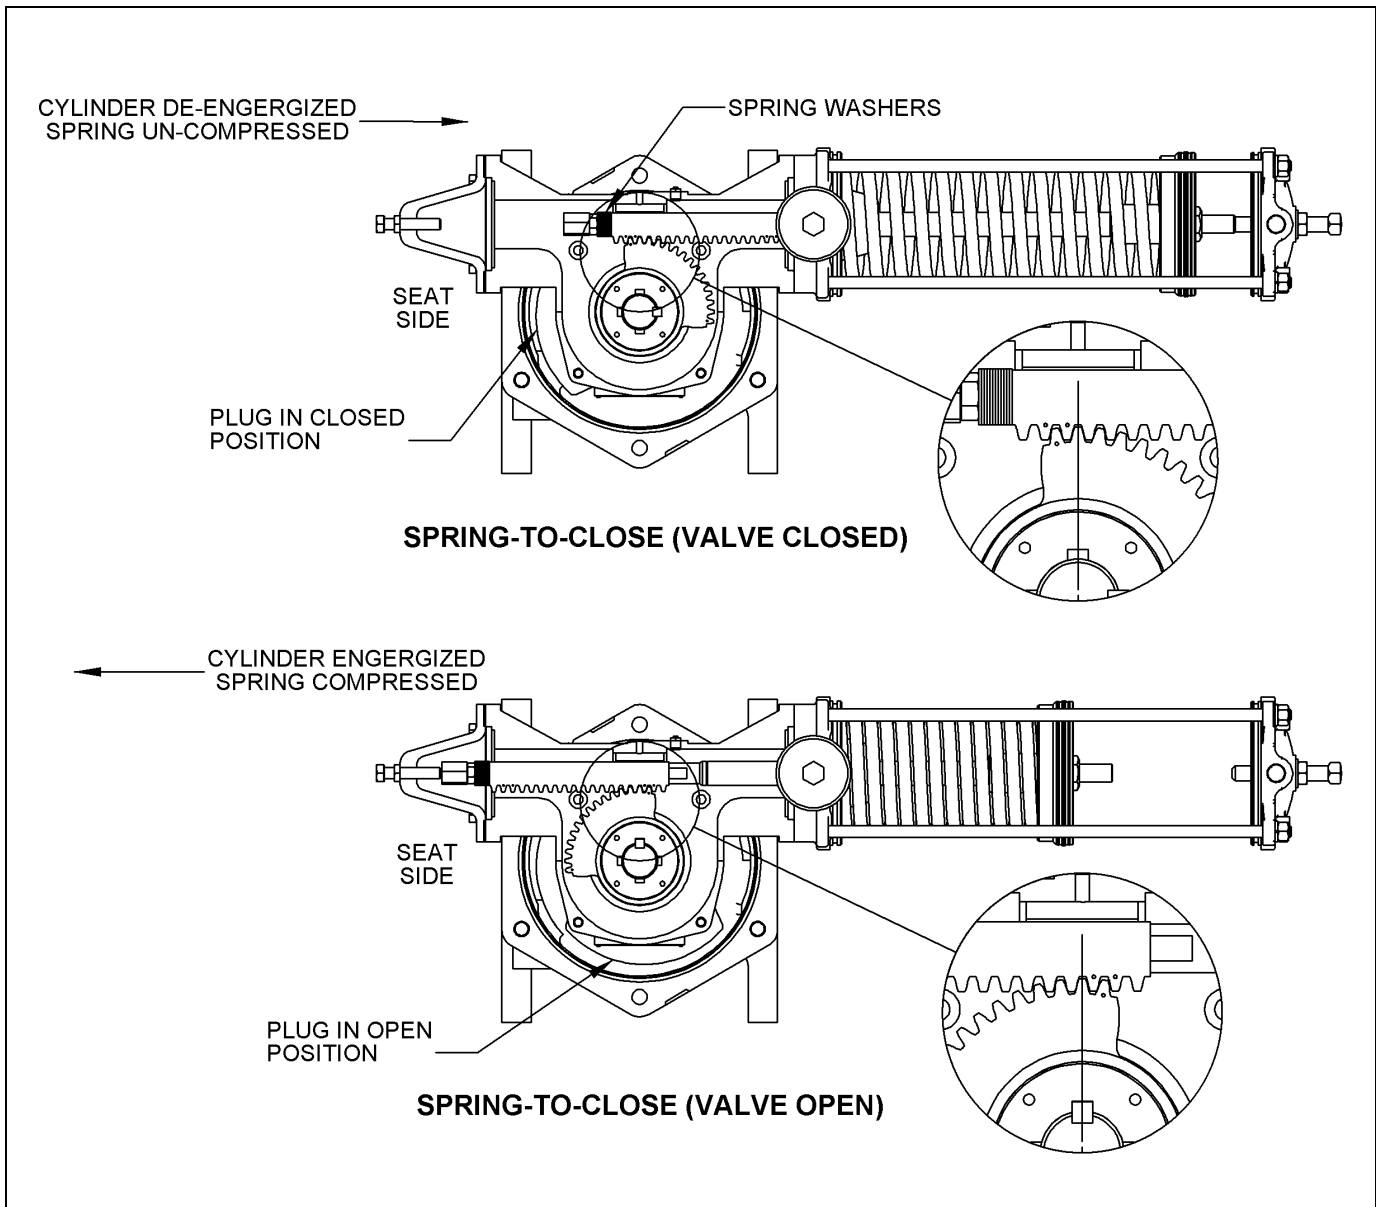

Figure 9 – Spring-To-Close Actuator (6A actuator shown)
This procedure can be performed with the actuator installed on the valve or removed. See Figure 9 for Spring-to-Close assembly.
10. Lift the gear sector (B3) off the valve shaft, slide the rack (B4) away from the cylinder end of the housing (B1) one tooth. Then slide the gear sector back onto the valve shaft. See Figure 9 for tooth alignment detail.
12. Install the cylinder/rack rod assembly by sliding the rack rod through the opposite end of the housing (B1) and the rack (B4) and fasten the cylinder assembly to the housing with screws (B27). See Figure 9 for Spring-to-Close assembly.